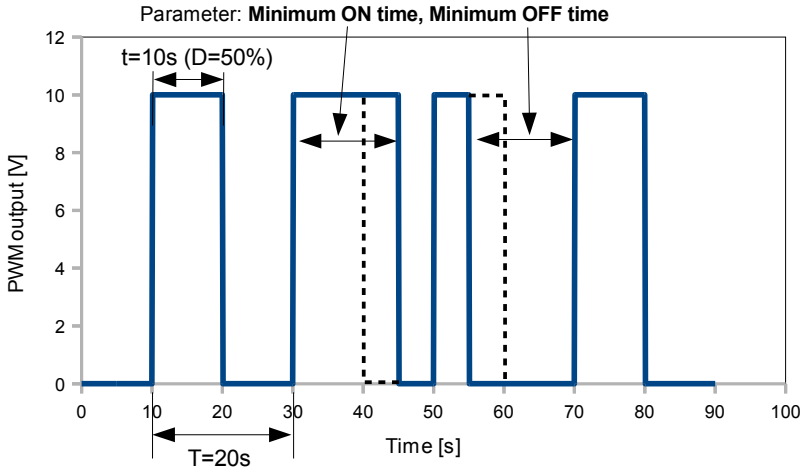

Fig. 7.94. Sample of output signal of SSR relay in PWM mode
- **Minimum ON time** - minimum duration of a high state (after switching to a high state, switching back is possible after **Minimum On time**), see **Fig. 7.94**,
- **Minimum OFF time** - minimum duration of a low state (after switching to a low state, switching back is possible after **Minimum OFF time**), see **Fig. 7.94**,